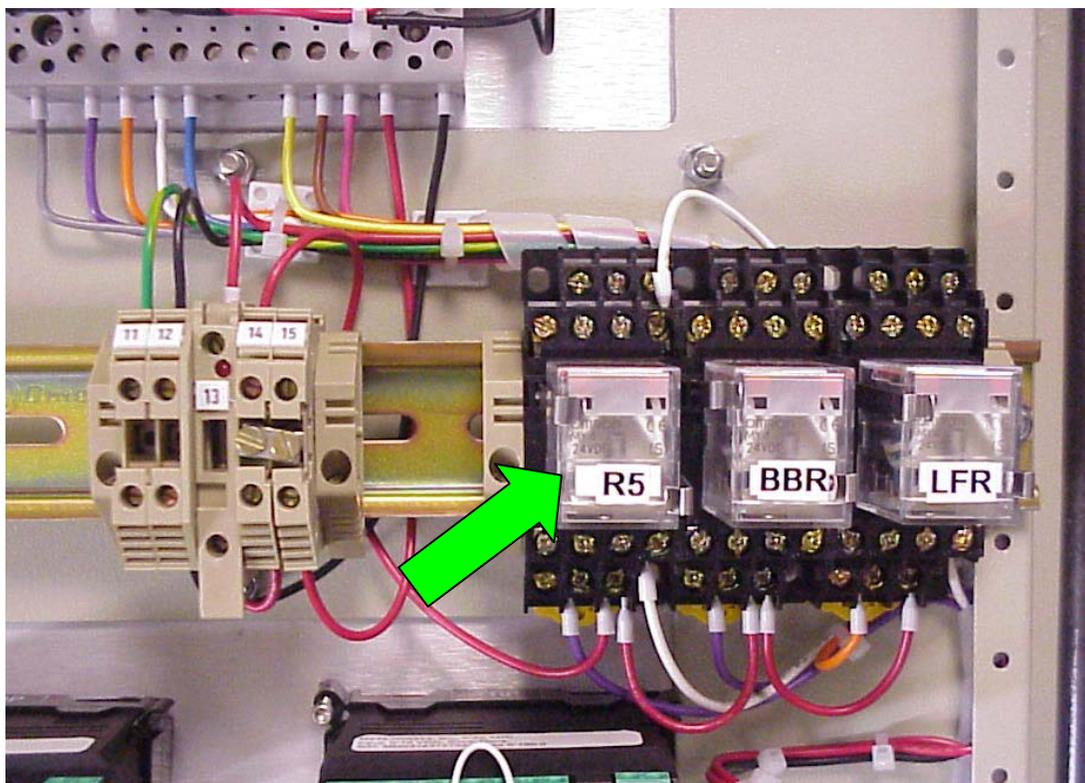

Figure 3 - Outlet Blower Enable Relay
3. Turn off the inlet blower, for nearly all VFDs the speed display will immediately drop to zero. If the speed display does not immediately drop to 0, you have to open the main controller and visually check the status of the health contact. See figure 3.